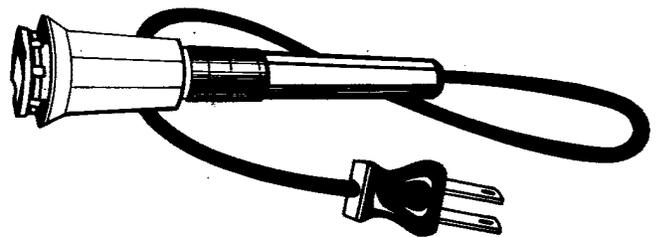

Fig. 1
2.03 Power Cord and Handle: Two (2) power cord lengths are provided. The TPW 555-9 has a 9-foot cord for use on rolling ladders equipped with power outlets and for other locations where a short cord is required. The TPW 555-20 has a 20-foot cord for locations where a long cord is required (see Fig. 1).